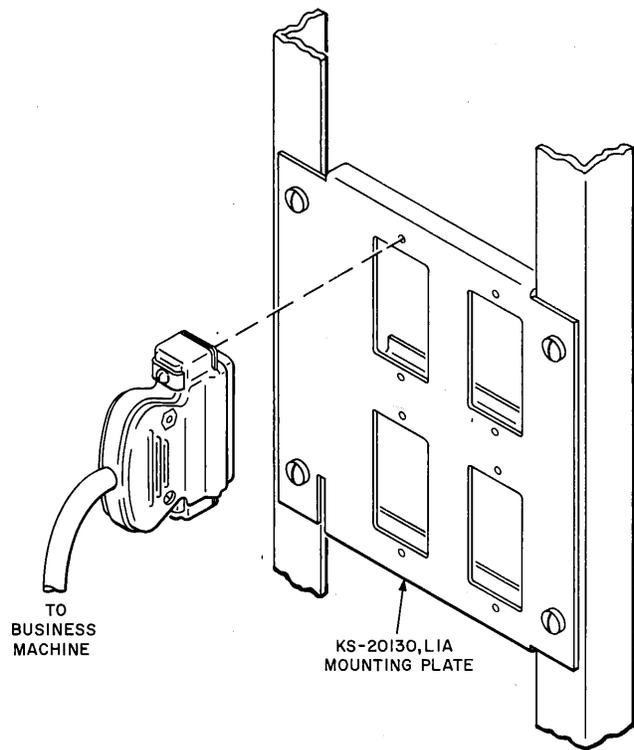

Fig. 11—Customer Interface Cord Attached to KS-20130 LIA Mounting Plate, Front View
- (4) Route the customer interface cords into the cabinet and connect each interface cord to the proper data circuit on the KS-20130 L1A mounting plate as shown in Fig. 11.